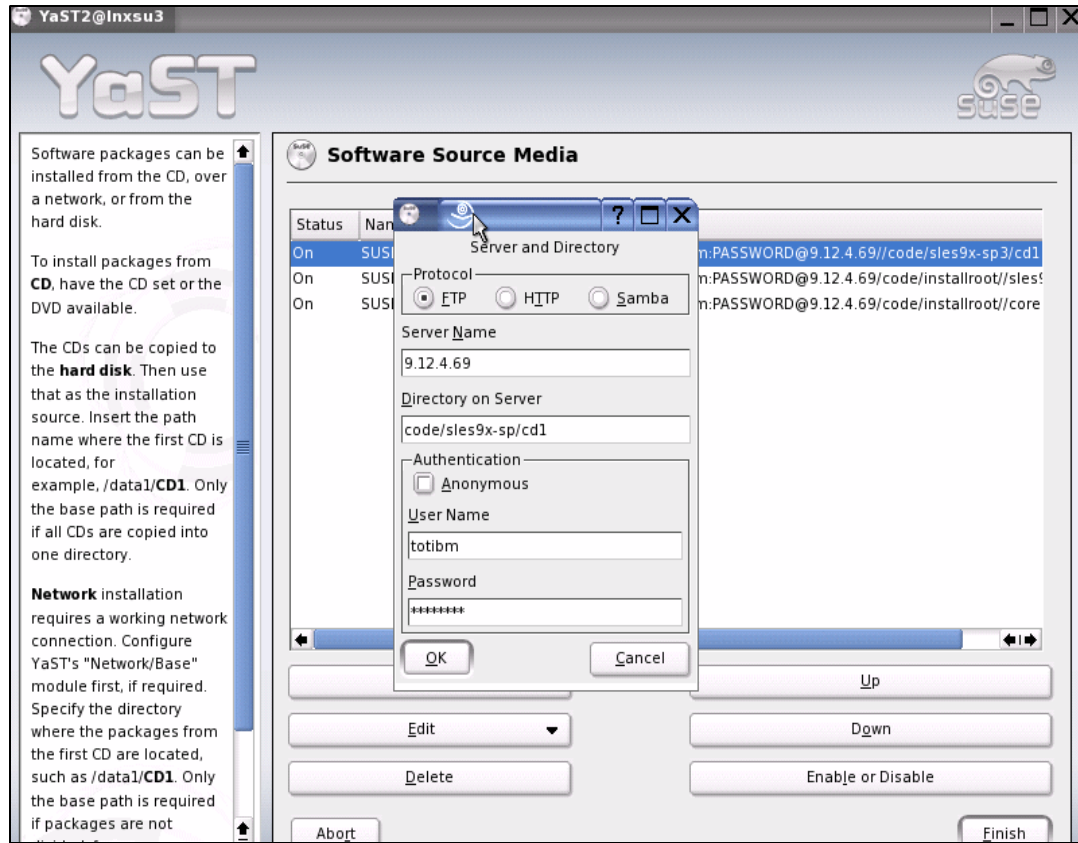

Figure D-4 FTP parameters in FTP server definitions window
- b. On the window that displayed, as shown in Figure D-4 on page 291, we entered the following: